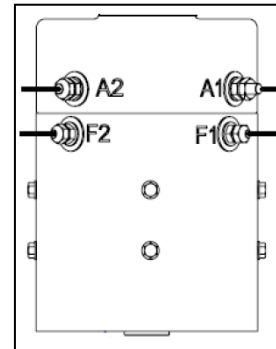

Figure 10-1
1. Mark traction motor cables (if not already marked), with motor terminal identification Figure 10-1.